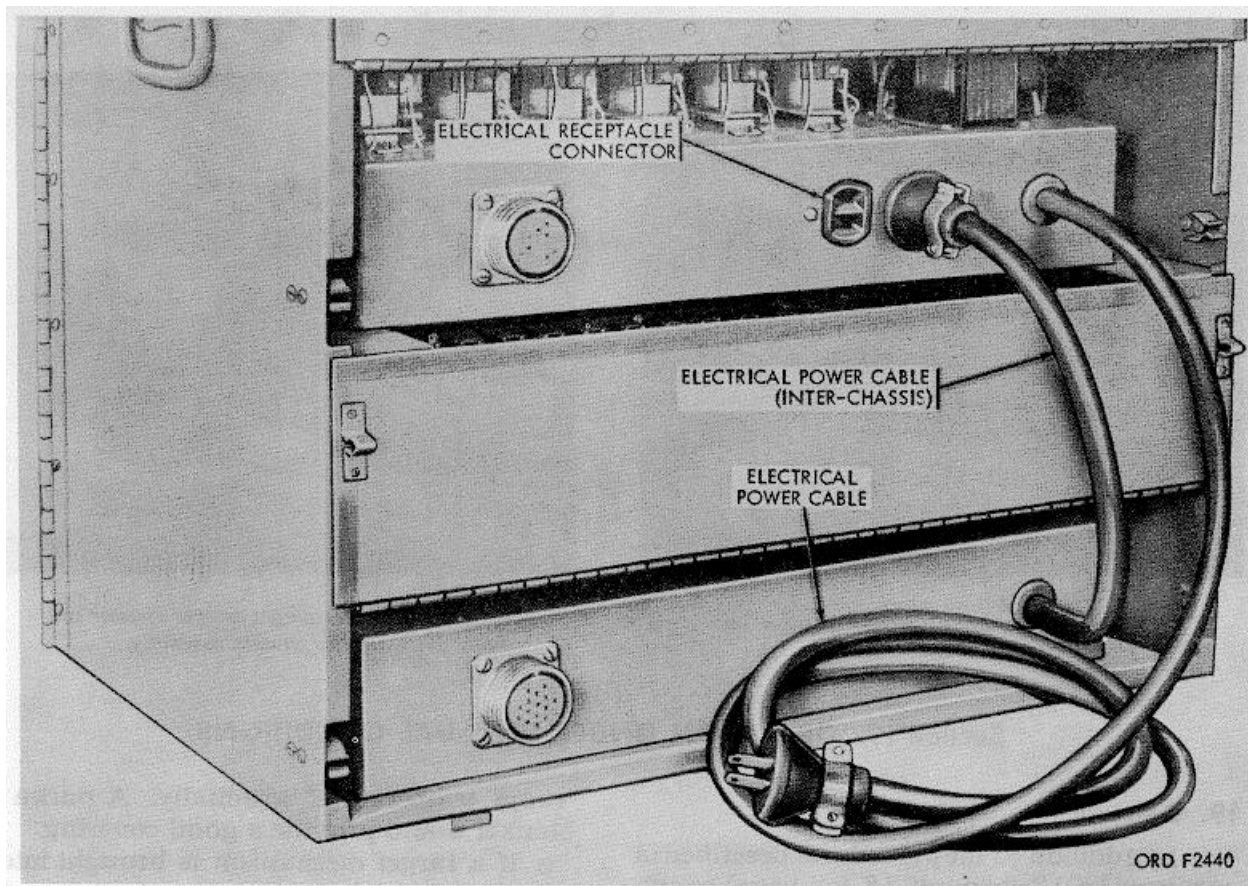

Figure 9. Counter and flasher chassis electrical power cables.
- (2) Plug the counter chassis electrical power cable (fig. 9) into the 115-volt ac power source. Also connect electrical power cable from flasher chassis assembly (fig. 9) to receptacle connector in counter chassis assembly.
- (3) Turn the power toggle switch of the counter chassis assembly to the ON position (par. 12).
- (4) Turn power toggle switch of counter chassis assembly to the OFF position.